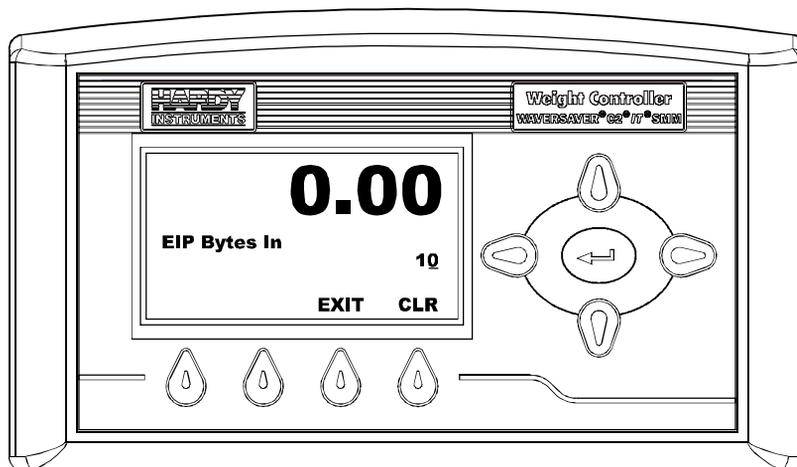

FIG. 131 EIP BYTES IN MENU
Step 11. Press the Enter button. The “EIP Bytes In” menu appears. (See Fig. 131) The current value is displayed.